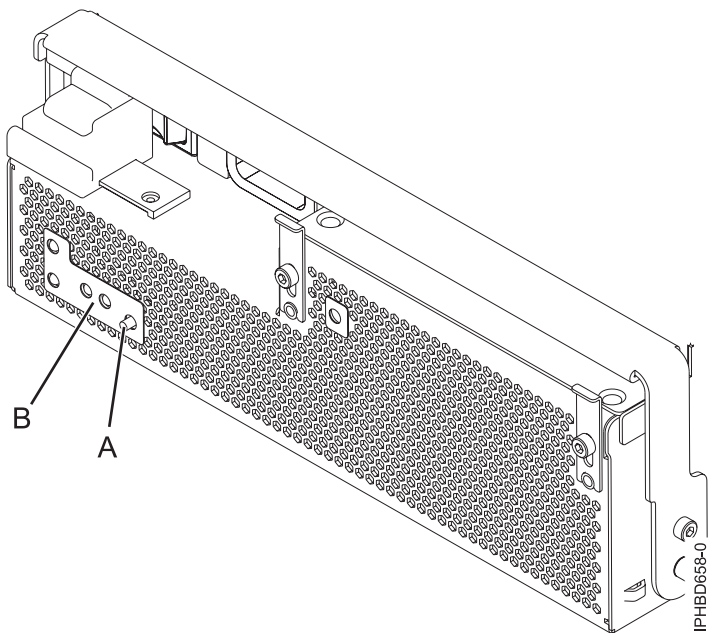
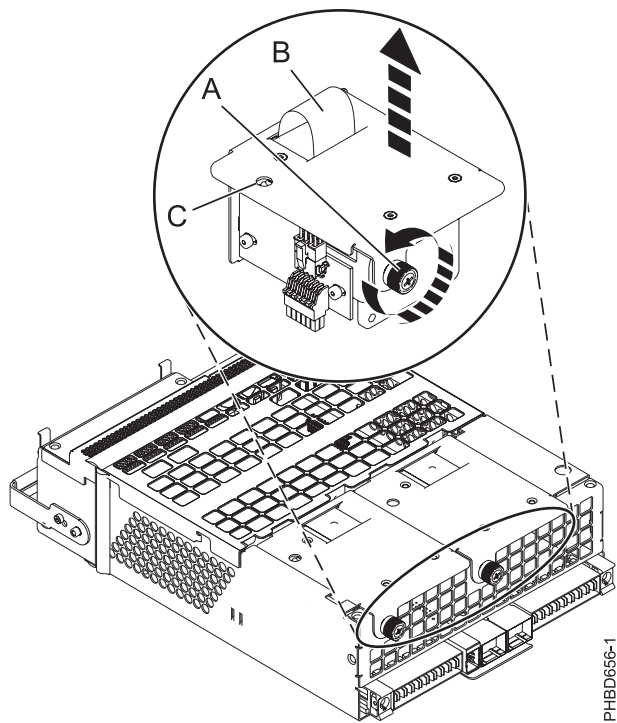

Figure 10. Fan fault LED and fan identify button
Figure 11. Removing a power supply fan
Note: If a fan fails, the amber fan fault LED on the front of the offline converter assembly (OCA) (B), shown in Figure 10, is on solid.
- a. Identify the failing fan by pressing the fan identify button (A) shown in Figure 10 on page 11. An amber left or right fan-fault LED (C) on solid, as shown in Figure 11, indicates the faulty fan.
- b. Loosen the thumbscrew (A) that holds the fan in the power-supply assembly, as shown in Figure 11.
- c. Use the recessed fan handle (B) to pull the fan out of the power-supply assembly, as shown in Figure 11.